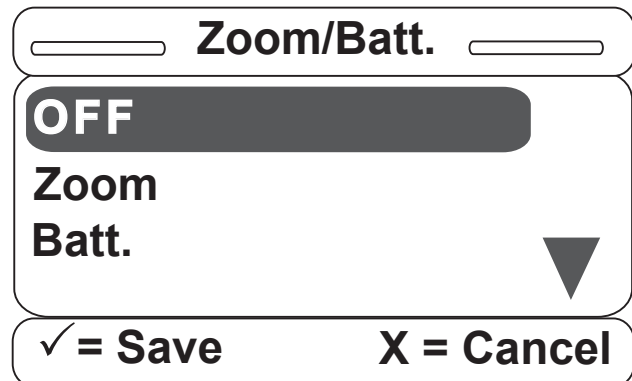

Figure S-6
6. Once the Zoom/Batt. option is selected, Figure S-6 will be displayed. You can set this option to OFF, Zoom or Battery Backup. Scroll up or down to select one of the three available items and hit "Enter" on the footboard panel.